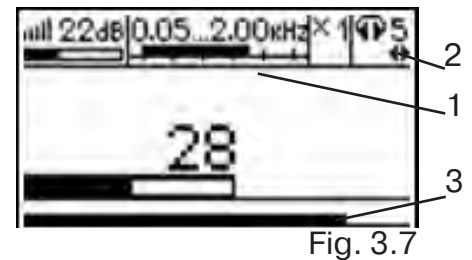

Fig. 3.7
3.5.3 In order to identify cables among the detected utility line under the industrial frequency load of 50...60 Hz, use the 50...60 Hz mode (fig.3.7). In this mode, only a small frequency band with central frequency of 50...60Hz is distinguished from a wide signal spectrum. In order to enter the 50...60Hz mode, turn on the filter (pt. 5, fig.3.1), press the filter frequency button **f** (pt.10 fig.3.1) and select centre frequency of the filter 50...60Hz by using the buttons **◀/▶** (pt. 4, fig. 3.1).
3.5.4 The chosen frequency will appear on the display (pt.1 fig.3.7). For instance, when 50...60 Hz frequency is chosen, the symbol **50...60Hz** will appear.
Leave the filter adjustment mode by pressing the frequency button **f** (pt.10 fig.3.1). The help indicator **◀▶** will disappear from the frequency display window (pt.1 fig.3.7) and will appear in the volume adjustment window (pt.2 fig.3.7).
3.5.5 Set the acceptable volume level (pt.2 fig.3.7) by pressing the **◀/▶** buttons (pt.4 fig.3.1), provided that the buttons are not being used for filter adjustment.
3.5.6 Set the desired input signal level by using sensitivity buttons **|||||** and **||||** (pt.8 fig. 3.1) based on the narrow band indicator (preferably at 50-70% of maximum value) pt.3 fig.3.7.